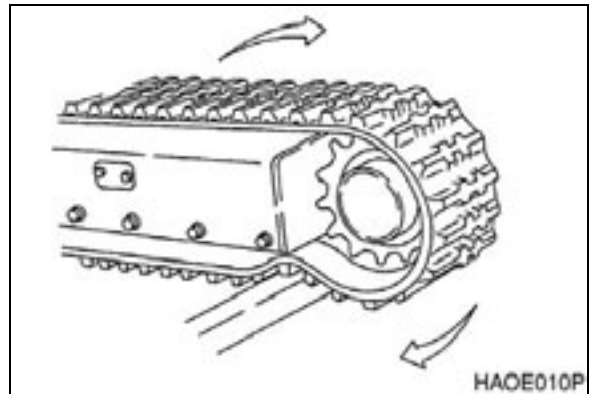

Figure 66
2. Set safety lever (Figure 66) on "LOCK."